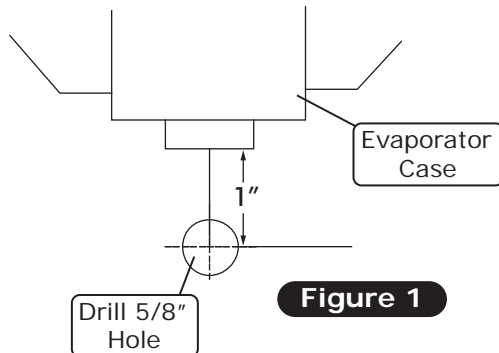

Figure 1
1. Install the center louver under the dash as shown in Figure 1, below.
2. In line with the drain, lightly make a mark on the firewall. Measure 1" down. Drill a 5/8" hole through the firewall (See Figure 1, below).